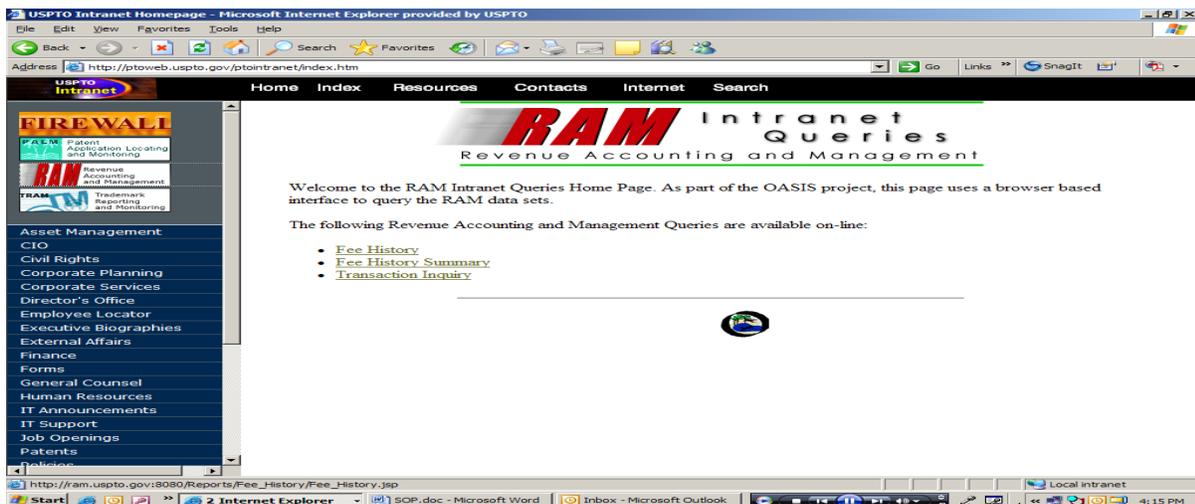

Figure 1-8: The RAM Intranet Queries Homepage
Step 2: Click on the Revenue Accounting and Management link on the left side of the screen, which opens the RAM Intranet Queries page (Figure 1-8).